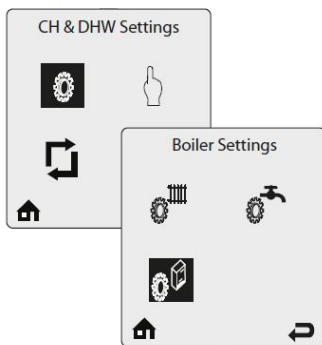
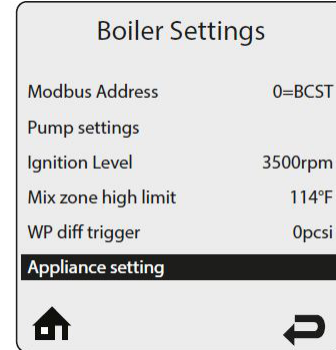

Fig. 9: Installer Menu
Fig. 10: Appliance setting
2. Go to boiler settings and click appliance setting, as seen in Fig. 9 and Fig. 10.